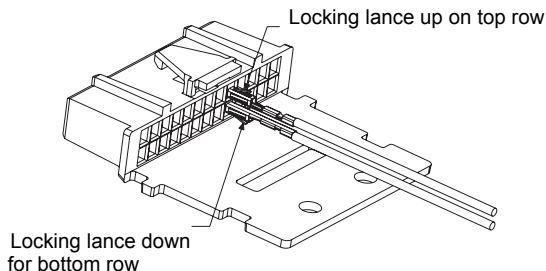

Figure 3. Terminal Orientation
The emergency foot switch kit includes a cable. One end of the cable has two exposed wires, the other end has two wires, one with a lug and the other with a contact terminal attached. Refer to *Figure 3*, and make connections as follows:
3. Insert cable wire with the contact terminal into the pin #23 of the accessory connector as shown in *Figure 3*.